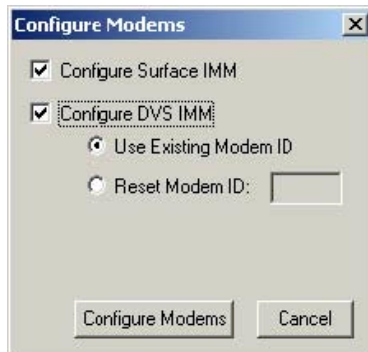

Figure 4. Configure Modems Dialog
- j. On the **Configure** menu, select **Modems**. This will launch the dialog shown in Figure 4 below. Select which modem(s) you wish to configure (i.e. the surface IMM connected to the serial port and/or the DVS IMM).